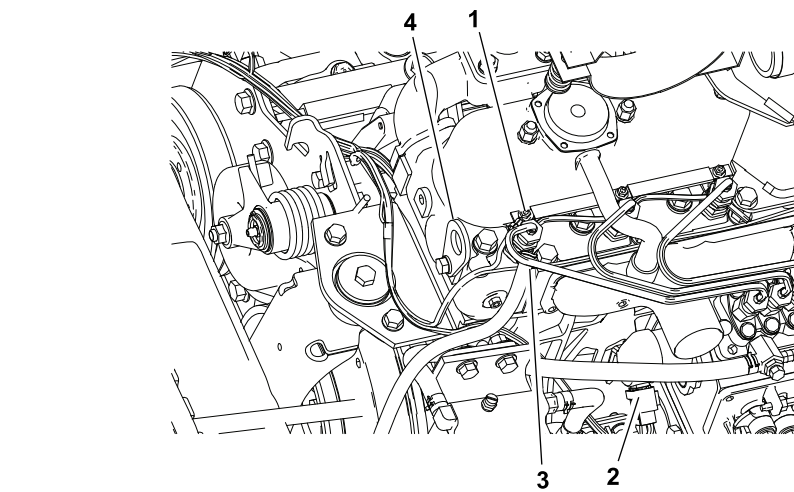
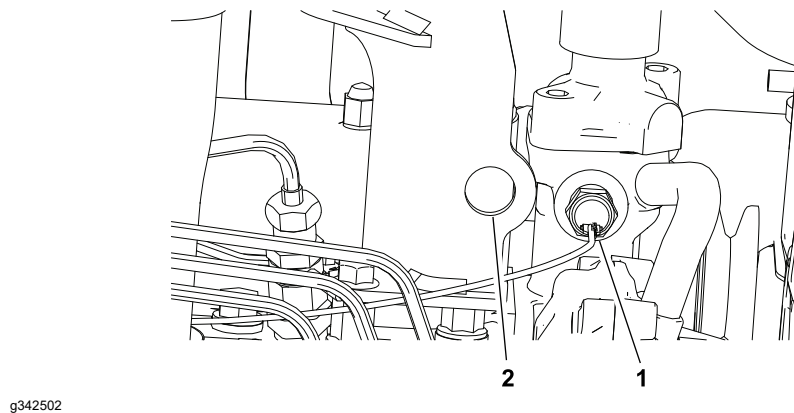

Figure 18
Figure 19
- B. Glow plug bus and fuel stop solenoid; refer to Figure 18.
- C. High temperature warning switch; refer to Figure 19.
12. Remove cable ties securing the wire harness to the front lift tab and other engine parts. Connect hoist or lift to the front and rear lift tabs; refer to Figure 18 and Figure 19.